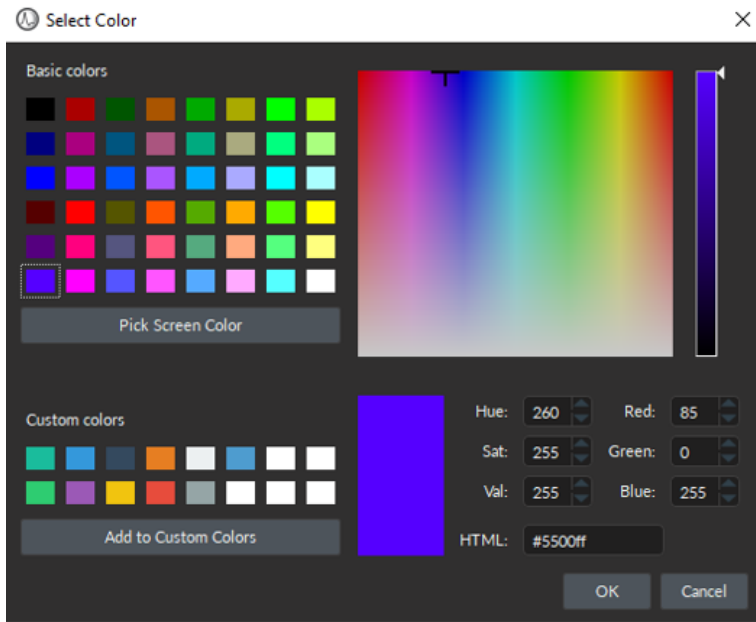

Figure 10.47: *Select Color Window*
4. The **Trace Colour buttons** (Fig. 10.46, a) in the **Options** column (Fig. 10.46, 4) opens the **Select Color** window (Fig. 10.47), where users can assign a unique/more intuitive color to each graph to easily identify and interpret the data.